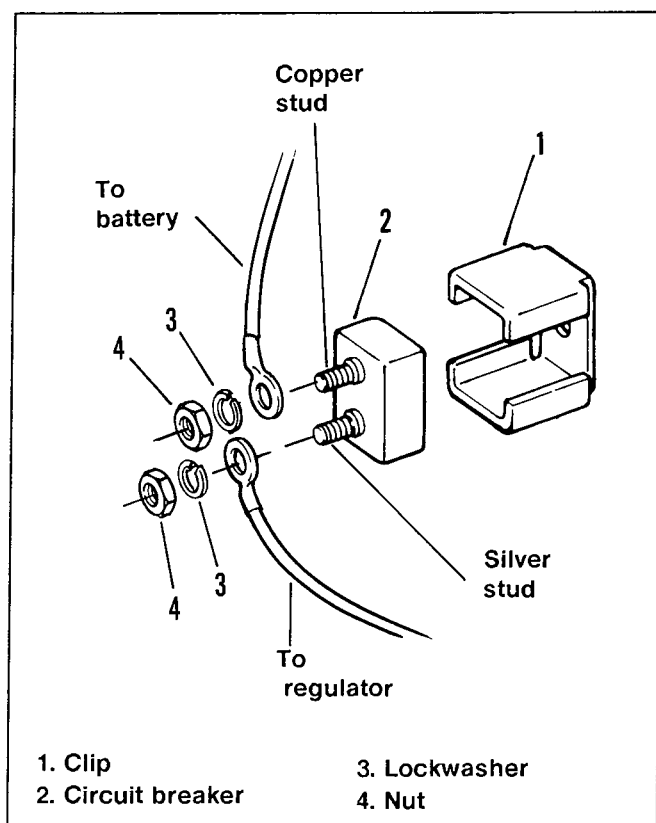

Figure 1. Circuit Breaker Connections
3. See figure 1. Remove terminal nuts (4) and lockwashers (3) at circuit breaker (2). Mark wires to be certain the same wires will be connected to the same terminals (copper and silver) on replacement breaker as they were on original breaker.